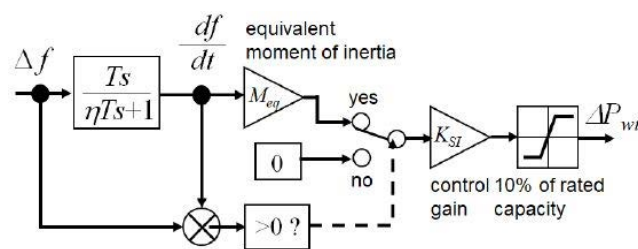

Figure.5 Asymmetric synthetic inertia control
- Figure 5 shows the proposed control block diagram to realize the above concept of asymmetric synthetic inertia control. Control signal is generated by multiplying equivalent inertia, M_{eq} , by the rate of change of frequency.